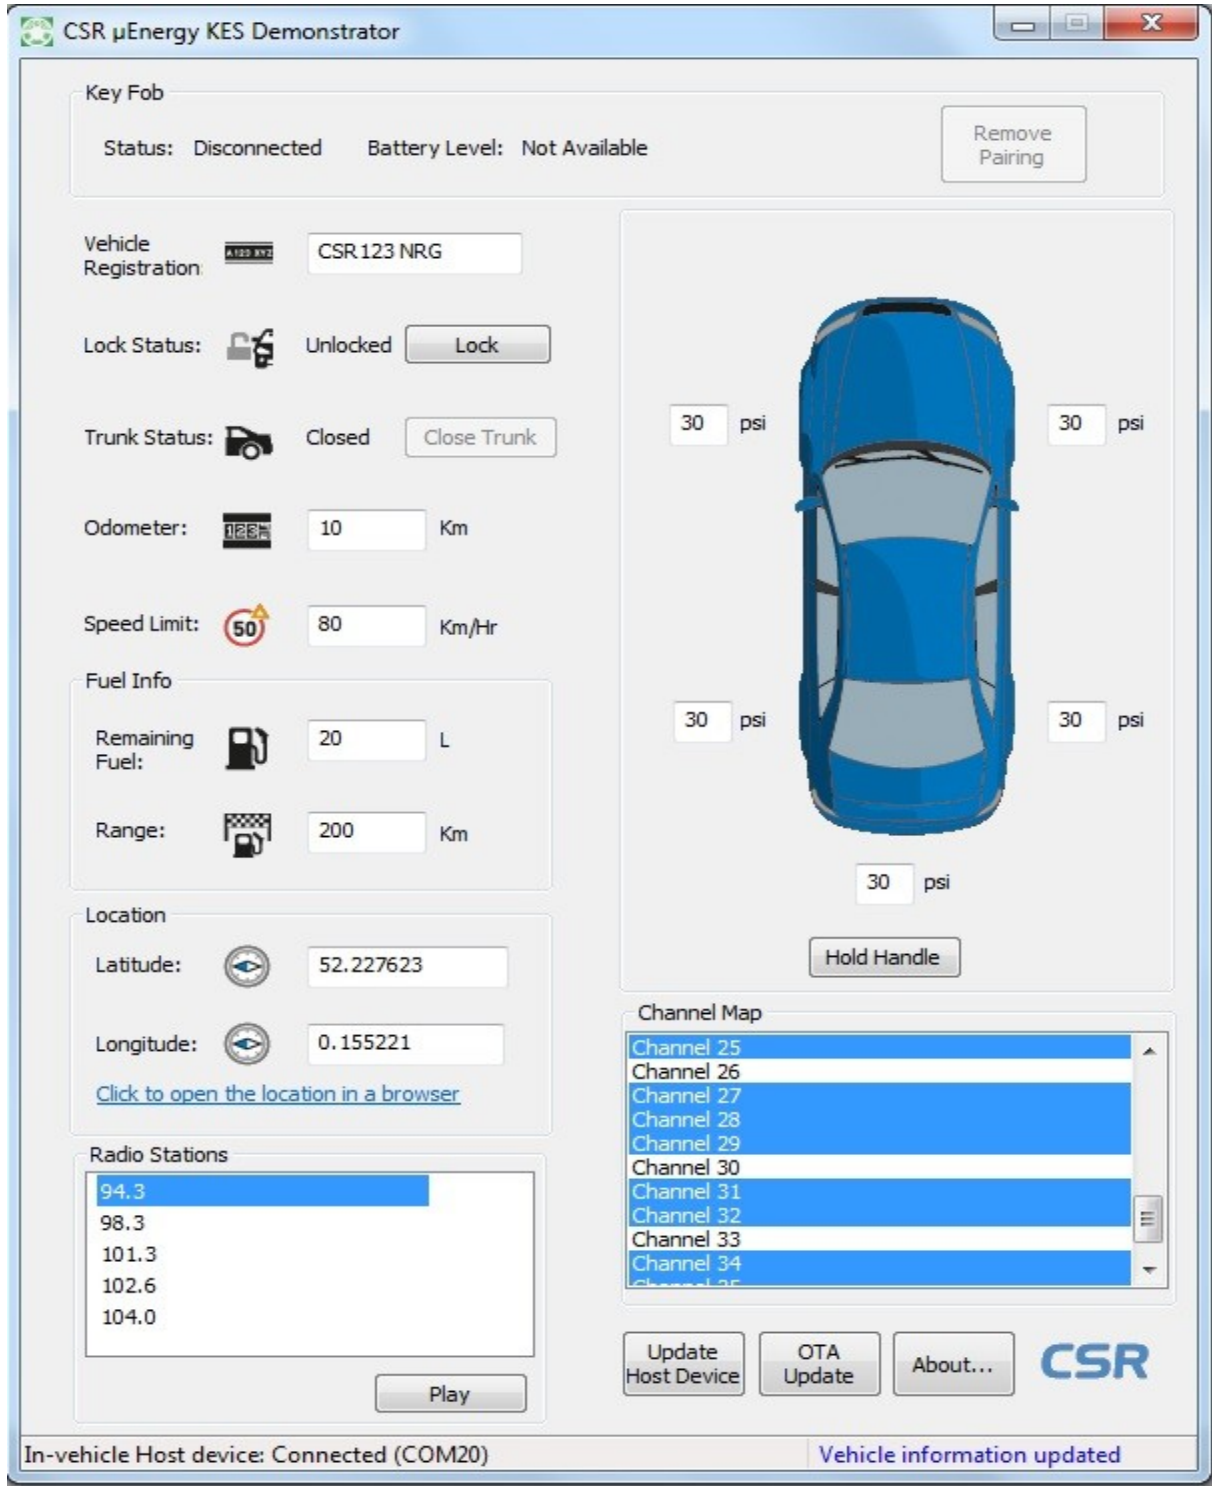

Figure 3.14: KES Demonstrator: Host Connected, Key Fob Disconnected
- Once connected, the KES Demonstrator application updates the Host device with the current vehicle information, see Figure 3.14. The Host device can also be updated by pressing the **Update Host Device** button at any time.